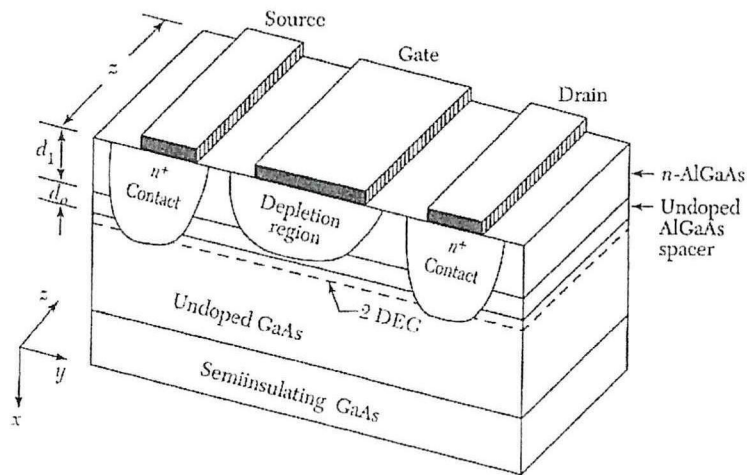

Figure Q4(c)
- (c) Analyse the importance of n^+ contact layer coincides with the undoped GaAs layer in MODFET structure as shown in **Figure Q4(c)**.